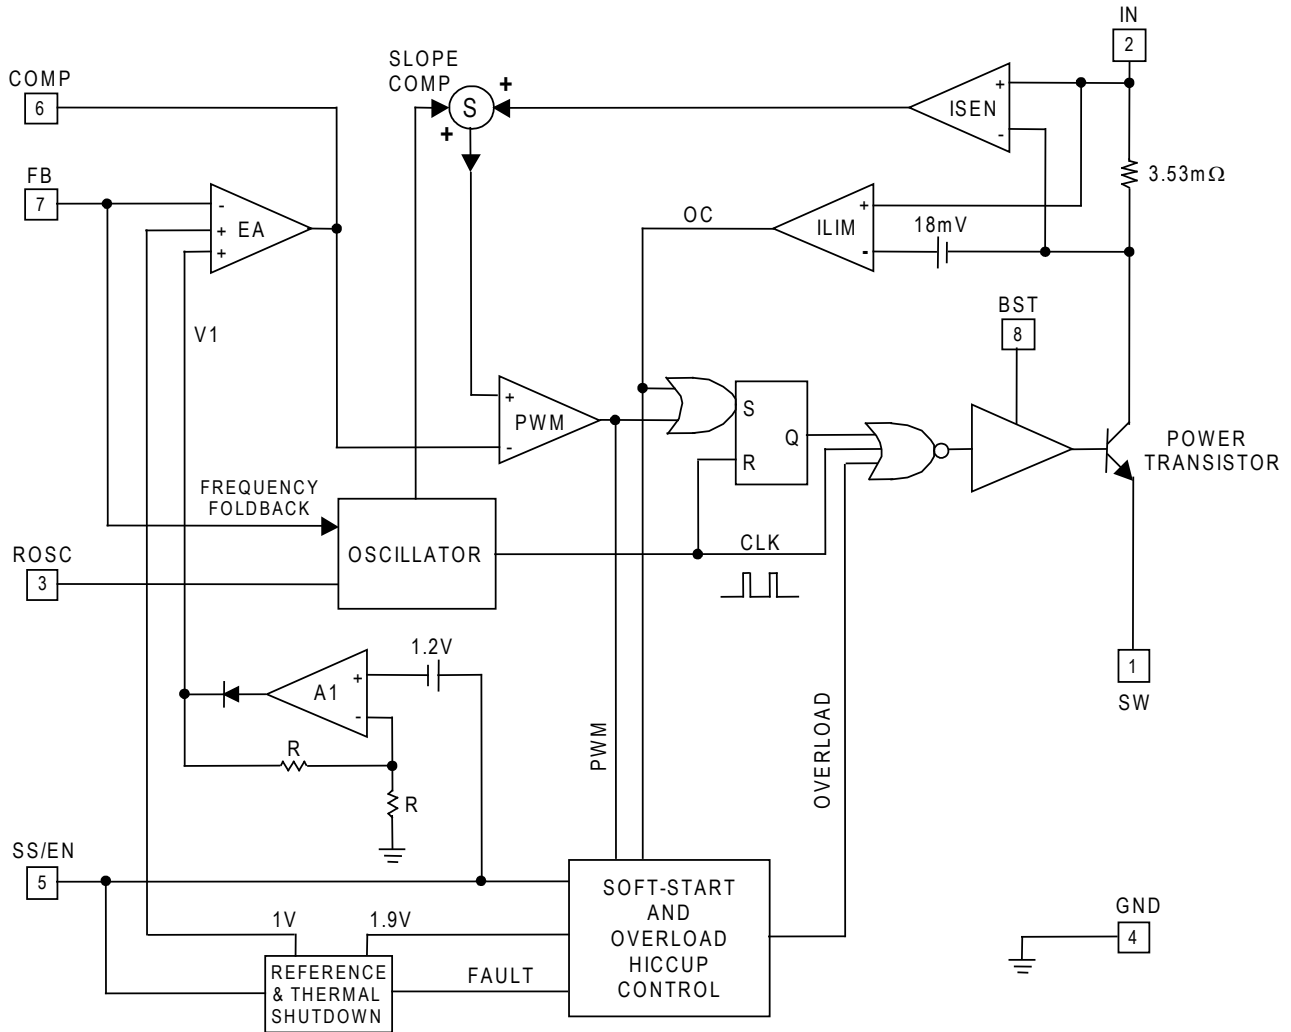

Figure 2 — SC4525EM Block Diagram
As shown in Figure 2, the switch collector current is sensed with an integrated 3.53mΩ sense resistor. The sensed current is summed with a slope-compensating ramp before it is compared with the transconductance error amplifier (EA) output. The PWM comparator trip point determines the switch turn-on pulse width. The current-limit comparator ILIM turns off the power switch when the sensed signal exceeds the 18mV current-limit threshold.
The error amplifier EA in Figure 2 has two non-inverting inputs. The non-inverting input with the lower voltage predominates. One of the non-inverting inputs is biased to a precision 1V reference and the other non-inverting input is tied to the output of the amplifier A_1 . Amplifier A_1 produces an output $V_1 = 2(V_{SS/EN} - 1.2V)$. V_1 is zero and COMP is forced low when $V_{SS/EN}$ is below 1.2V. During start up, the effective non-inverting input of EA stays at zero until the soft-start capacitor is charged above 1.2V. Once $V_{SS/EN}$ exceeds 1.2V, COMP is released. The regulator starts to switch when V_{COMP} rises above 0.4V. If the soft-start interval is made sufficiently long, then the FB voltage (hence the output voltage) will track V_1 during start up. $V_{SS/EN}$ must be at least 1.83V for the output to achieve regulation. Proper soft-start prevents output overshoot. Current drawn from the input supply is also well controlled.
becomes armed. As the load draws more current from the regulator, the current-limit comparator ILIM (Figure 2) will eventually limit the switch current on a cycle-by-cycle basis. The over-current signal OC goes high, setting the latch B₃. The soft-start capacitor is discharged with (I_D - I_C) (Figure 3). If the inductor current falls below the current limit and the PWM comparator instead turns off the switch, then latch B₃ will be reset and I_C will recharge the soft-start capacitor. If over-current condition persists or OC becomes asserted more often than PWM over a period of time, then the soft-start capacitor will be discharged below 1.9V. At this juncture, comparator B₄ sets the overload latch B₂. The soft-start capacitor will be continuously discharged with (I_D - I_C). The COMP pin is immediately pulled to ground. The switching regulator is shut off until the soft-start capacitor is discharged below 1.0V. At this moment, the overload latch is reset. The soft-start capacitor is recharged and the converter again undergoes soft-start. The regulator will go through soft-start, overload shutdown and restart until it is no longer overloaded.
The PWM latch in Figure 2 is reset every cycle by the clock. The clock also turns off the power transistor to refresh the bootstrap capacitor. This minimum off time limits the attainable duty cycle of the regulator at a given switching frequency. The measured minimum off time is 138ns typically. If the required duty cycle is higher than the attainable maximum, then the output voltage will not be able to reach its set value in continuous-conduction mode.